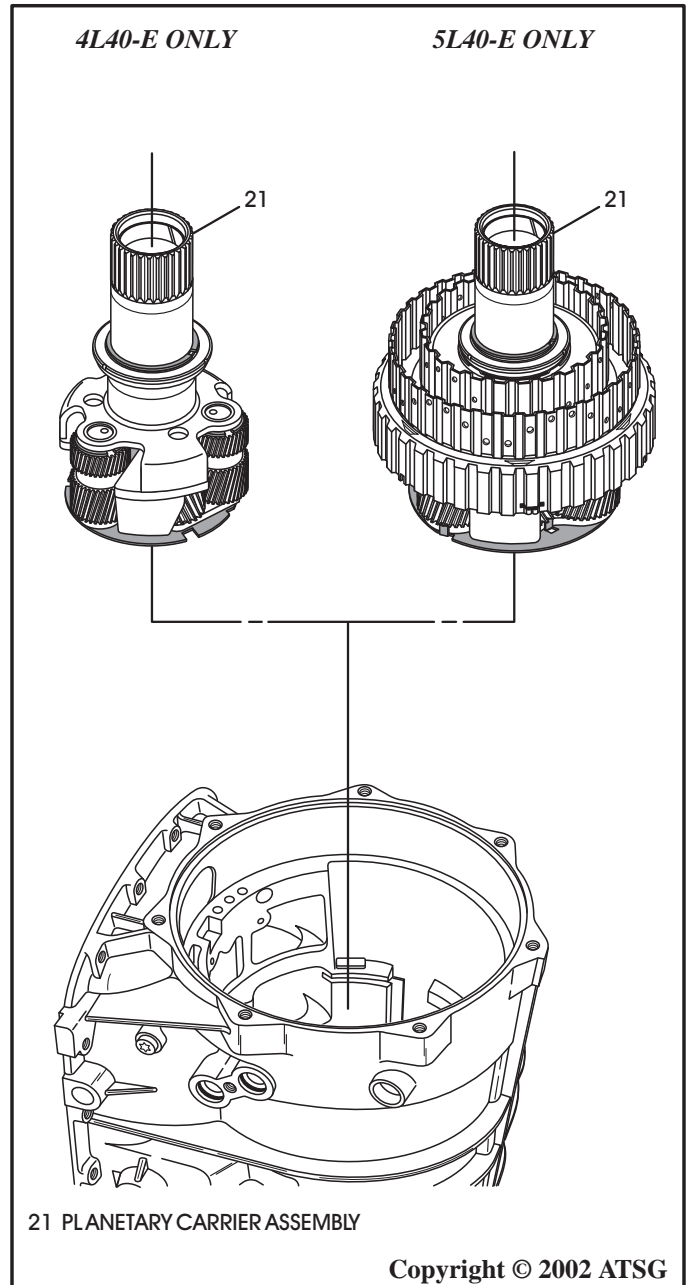

Figure 53
46. Remove the planetary gear set from the case, as shown in Figure 53, and set aside for the component rebuild section. We have illustrated both the 4L40-E and the 5L40-E in Figure 53.